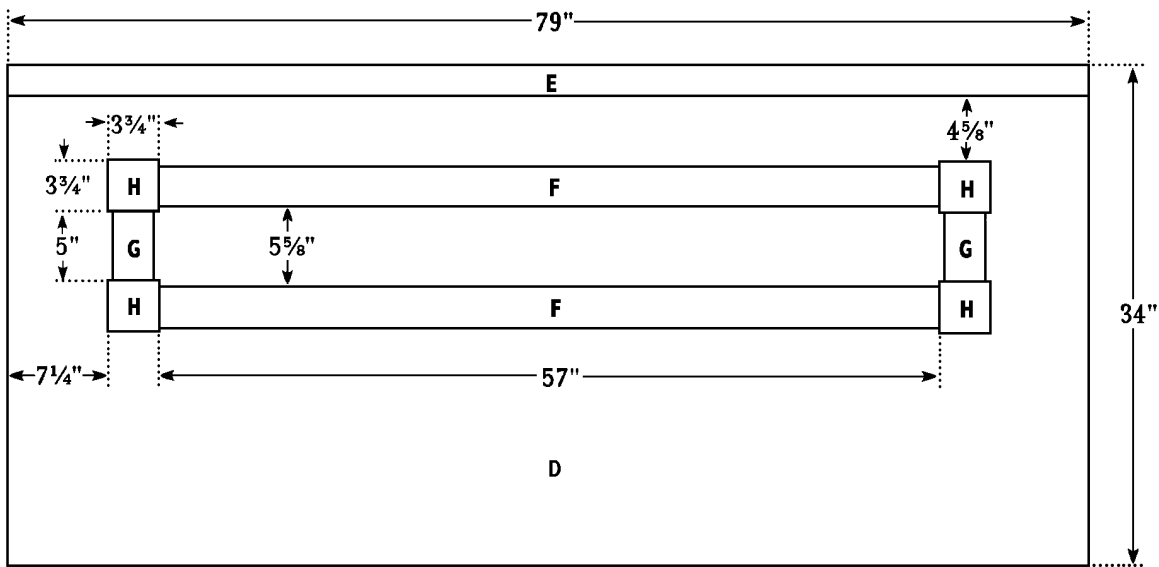

Figure 4
1. Cut one Headboard (D) from $\frac{3}{4}$ " plywood measuring 79 x 34 inches.
2. Cut two Top Rails (E) from 2-1/4" handrail, each measuring 79 inches.
3. Center one Top Rail (E) over the one 79-inch-edge of the Headboard (D), as shown in Figure 4. Apply glue to the meeting surfaces, and nail through the Top Rail (E) into the edge